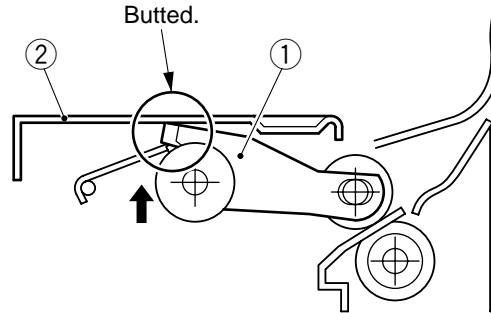

Figure 11-241
Install the solenoid so that the pick-up roller arm ① shown in Figure 11-241 butts against the upper stay ② when the plunger of the solenoid is pushed in.